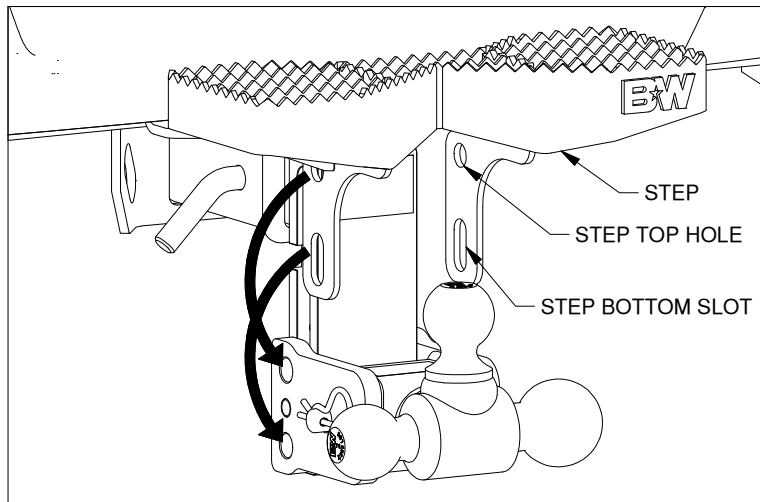

Figure A1: Tow & Stow and step.
2. **Identify step mounting location:** The step is designed to install over the swing arm. The top hole will install over the top swing arm pin hole, and the bottom slot will install over the bottom swing arm pin hole, see Figure A1.